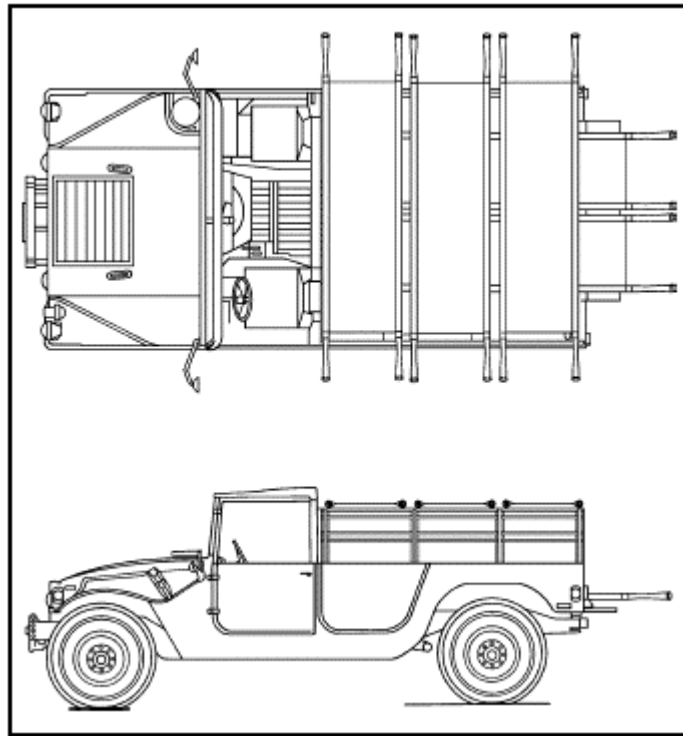

Figure 3-55
3. Direct nonmedical soldiers to load an M998 (two-man configuration). (See Figure 3-55.)